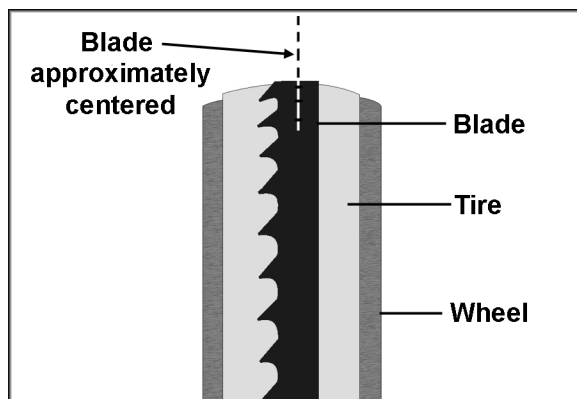

Figure 7-13
6. Rotate wheel by hand, observing position of blade through tracking window. As you rotate wheel, move tension lever to *Full Tension* position. The blade should continue to ride upon center of tire (Figure 7-13).